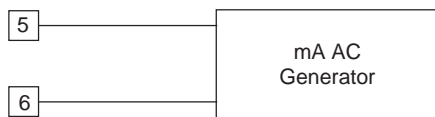

Fig.9
- 2) Connect the instrument under test to the calibrator as shown in Fig. 9.